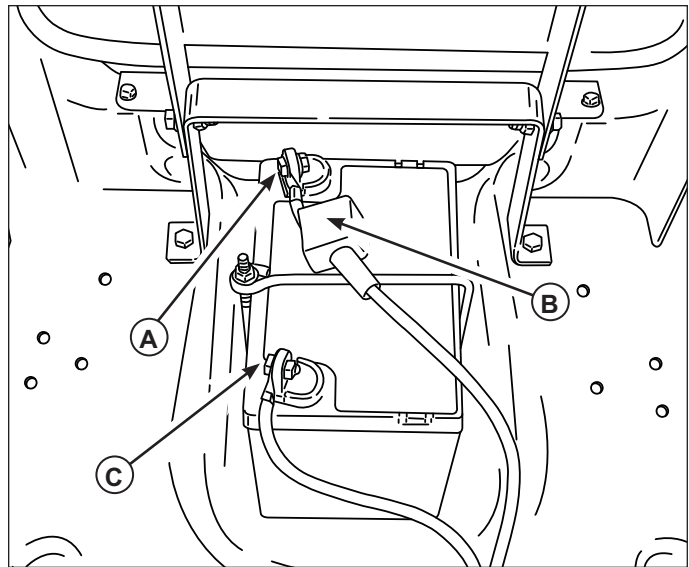

Figure 19. Battery Compartment
1. Disconnect the cables from the battery, negative cable first (**A**, Figure 19).